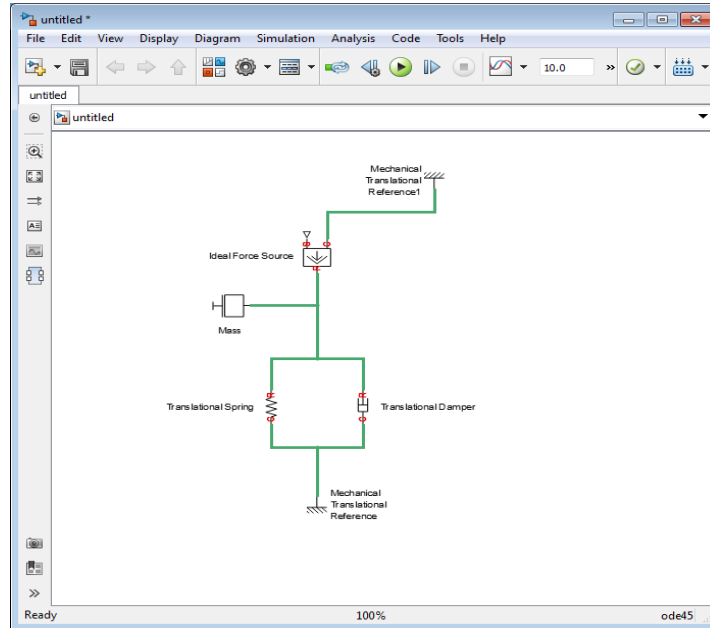
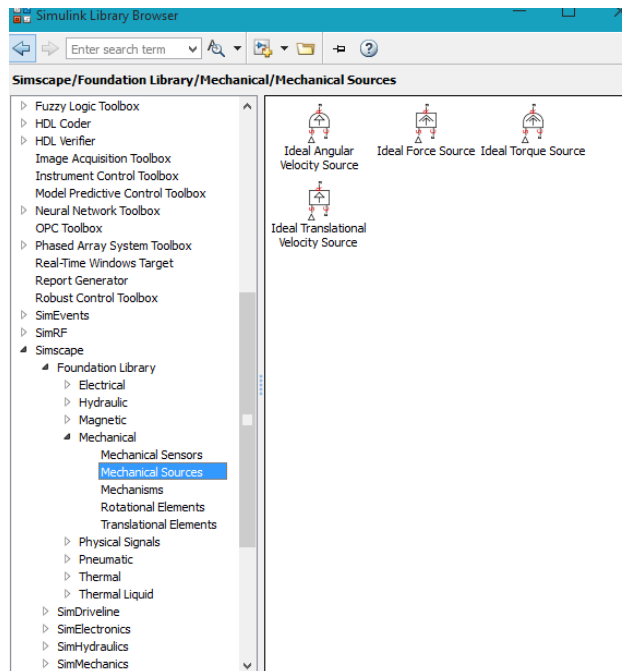

Figure 3.4: Connect the elements to each other, step 6
Figure 3.5: Mechanical Force, step 7
6. Connect the Translational Spring, Translational Damper, and Mass blocks to one of the Mechanical Translational Reference blocks as shown in figure 3.4.
7. To add the representation of the force acting on the mass, open the **Simscape > Foundation Library > Mechanical > Mechanical Sources** library figure 3.5, and add the Ideal Force Source block to your diagram as figure 3.4.